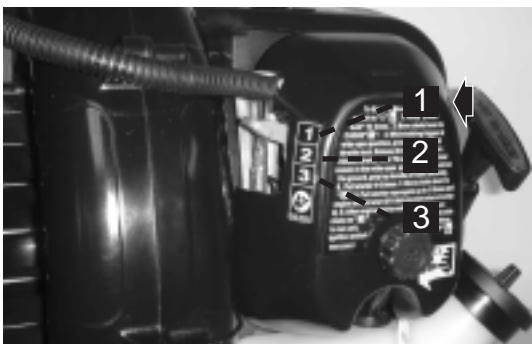

Fig. 9
2. Your unit is designed with a 3 position choke: FULL CHOKE 1, PARTIAL CHOKE 2, and RUN 3. Move choke lever to FULL CHOKE 1 position. (Figure 9)